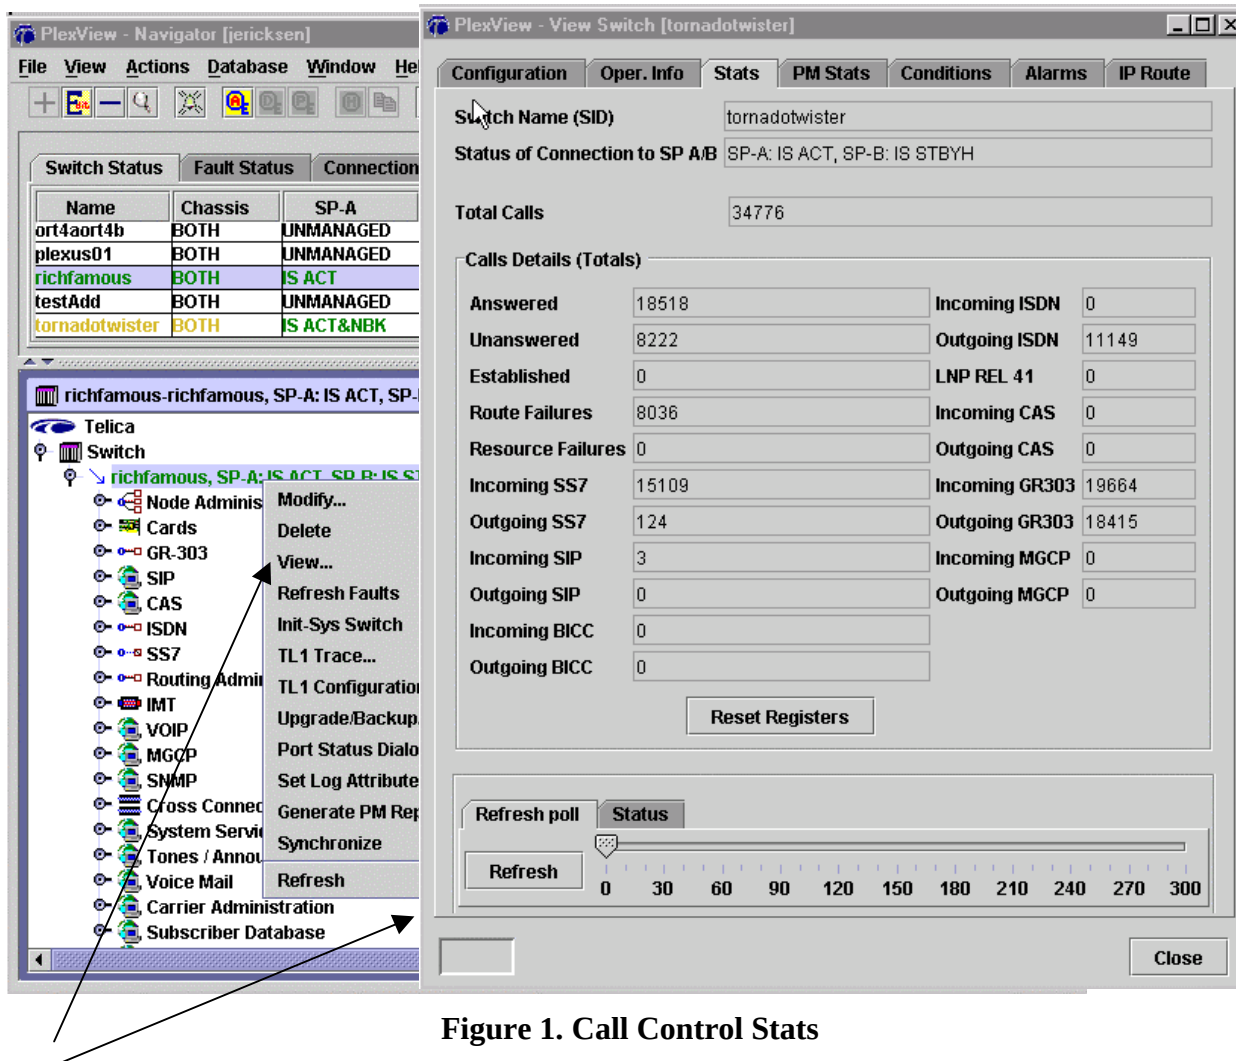

Figure 1. Call Control Stats
5. Retrieve statistics for call control by right-clicking the switch name in the switch status panel or double-clicking the switch to select it for the main panel and then right-clicking the switch name. Then select *View, Stats* and click *Refresh* near the bottom of the panel for latest information. See Figure 1.